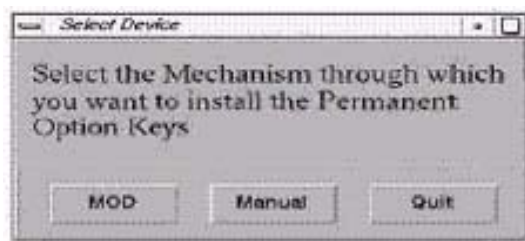

Figure 5-14 Select Device window
- 7.) Click PERMANENT. A Select Device (Figure 5-14) window opens. Select the mechanism through which you want to install the Permanent Option Keys.
Note: The Select Device illustration in Figure 5-14 is outdated — the new window displays selections for MEDIA, Manual, and Quit. Screen requires an update.